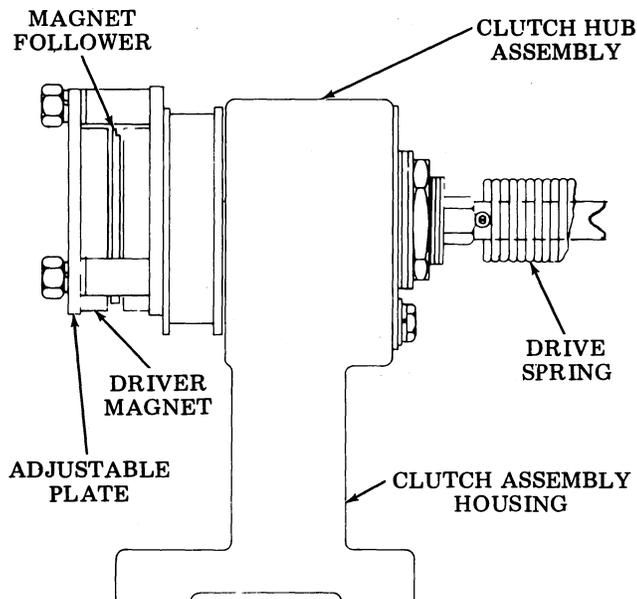

Figure 2 - Hysteresis Clutch Assembly
3.03 Rotational power is supplied to the hysteresis clutch through a timing belt drive directly off the continuously operating induction motor. An average speed of 1300 rpm is produced through the constant rotation of the magnetic clutch driver. With the clutch follower coupled to the clutch driver by its permanent magnetic field, the clutch follower torque and tape transport input torque, is dependent on the adjustable air gaps between the face of the clutch driver and the clutch follower (Figure 2).